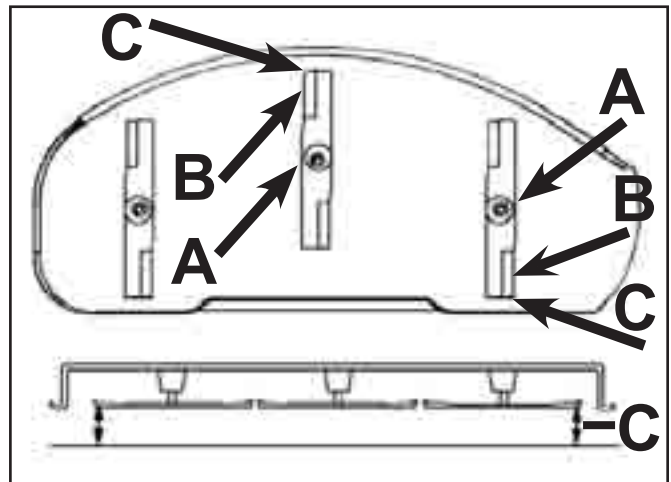

Fig A6 004 fig. 44 G001775
9. Set the height-of-cut at position 4 [4" (108mm)] and carefully rotate the blades so they are facing front to rear (Fig. A6 004).